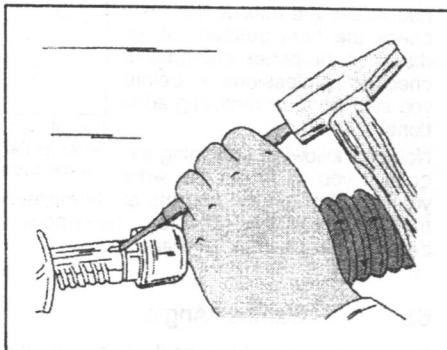

Fig. 6.7. — The track rod ball joint housing is secured as shown.
- rack as shown in Fig. 6.7. Take care not to split the metal.